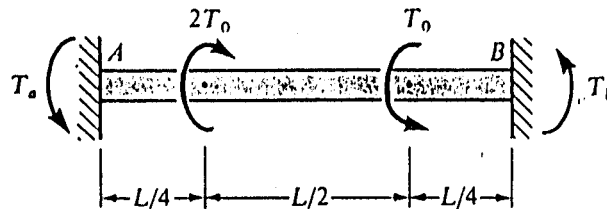

Figure 1
1. A solid circular bar with fixed ends is acted upon by two oppositely directed torques T_0 and $2T_0$ at locations shown in figure 1. Obtain formulas for the reactive torques T_a and T_b , the angle of twist ϕ_m at the midsection of the bar, and the strain energy U of the circular bar AB.